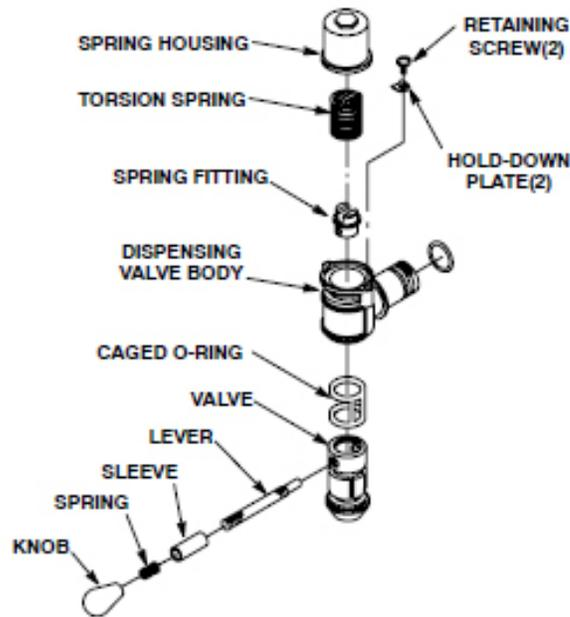

Figure 38. Self-Closing Dispensing Valve
Refer to Figure 38 and perform the procedure in Table 37. to lubricate or change the caged o-rings in each dispensing valve on the unit.
6.	Disassemble the dispensing valve (see Figure 38).